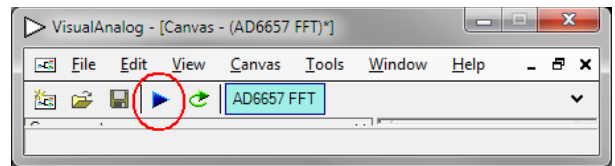

Figure 12. Run Button (Encircled in Red) in VisualAnalog - [Canvas - (AD6657 FFT)*] Toolbar, Collapsed Display
- Click the **Run** button in the **VisualAnalog - [Canvas - (AD6657 FFT)*]** toolbar (see Figure 12).